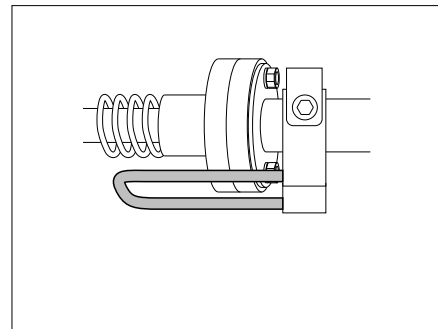

Fig. 152 Locking lever in the secured position
- Before using the bed check whether the locking lever is located in the secured position (Fig. 152).
- Set the locking lever to the secured position (Fig. 152).